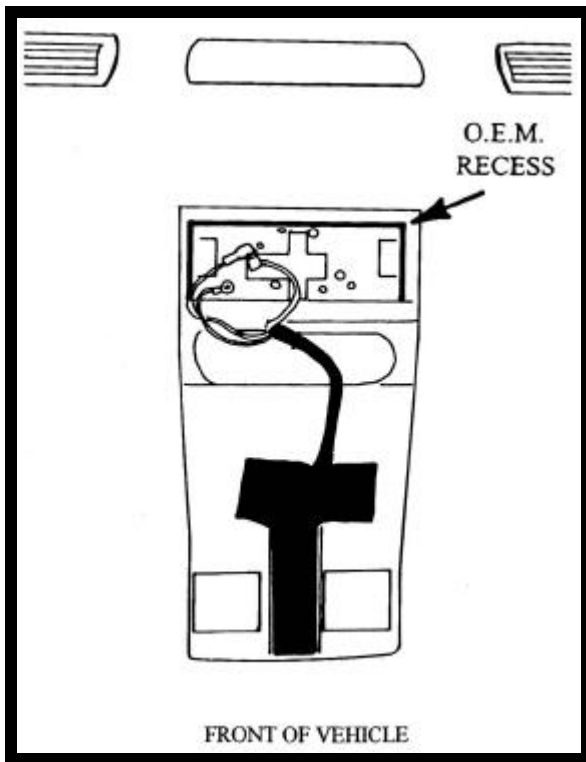

FIGURE 5
7. Install the mounting bracket in the O.E.M. dome light area. Align the front mounting tabs with the openings in the metal inner roof. Slide bracket rearward until flange contacts rear edge of recessed area. See Fig. 5.